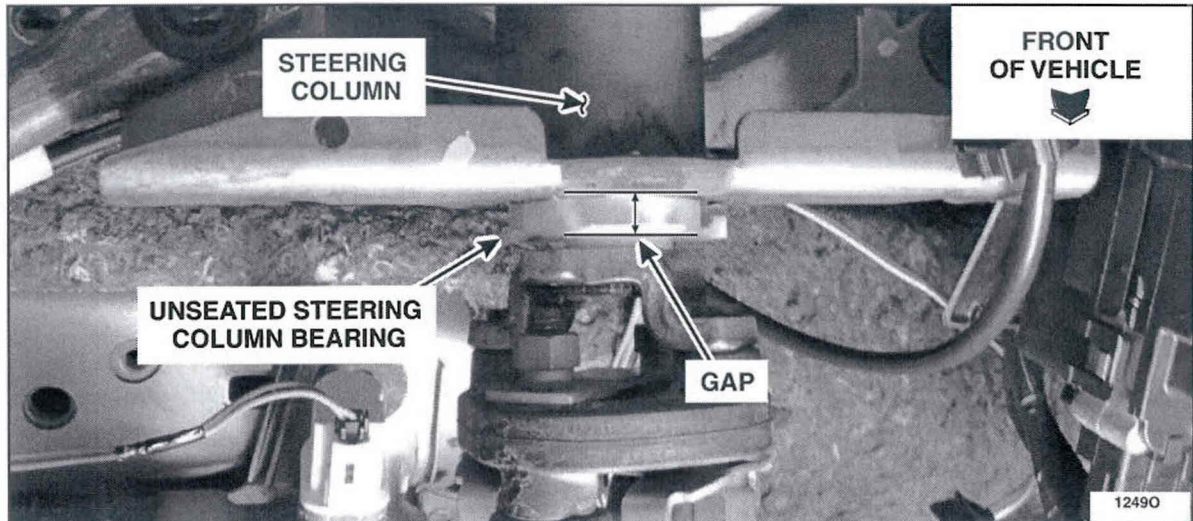

FIGURE 3
1. Inspect the steering column for an unseated steering column bearing. See Figures 3 and 4.